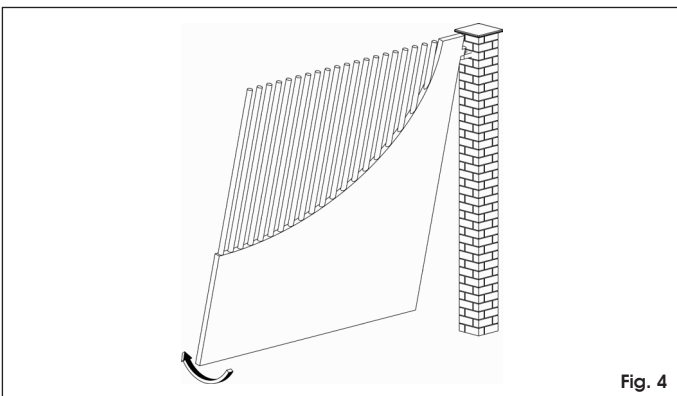

Fig. 4
- Swing the leaf around the axis of the top hinge (Fig. 4).